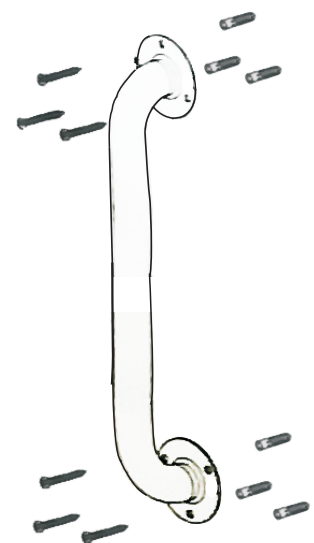

Fig.2
1. Place the grab bar in position on the wall and using the hole centres of each wall bracket as a template, mark the screw fixing positions on the wall surface. If fitting the product in a vertical or horizontal orientation it is important to ensure the grab bar is level. (See Fig.2)
3. Insert wall plugs flush to the surface of the wall. If fitting to a tiled surface, the wall plugs should be inserted below the surface of the tile to avoid cracking. (See Fig.2)